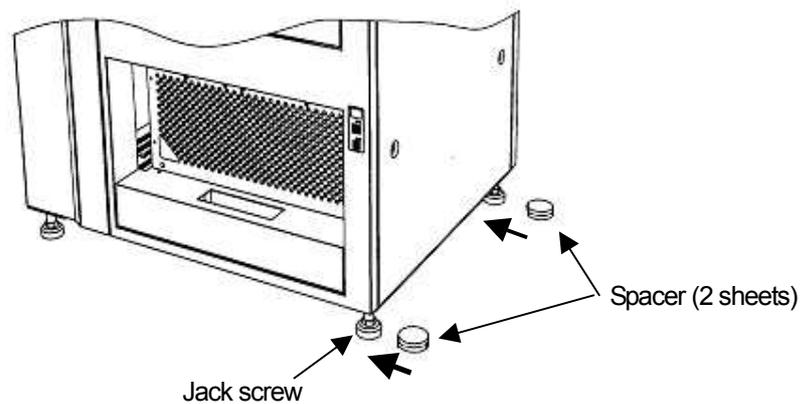

**Fig.1**
- 1) As shown in Fig.1, leveling height is adjusted so that an eye mark can be seen in a slit.